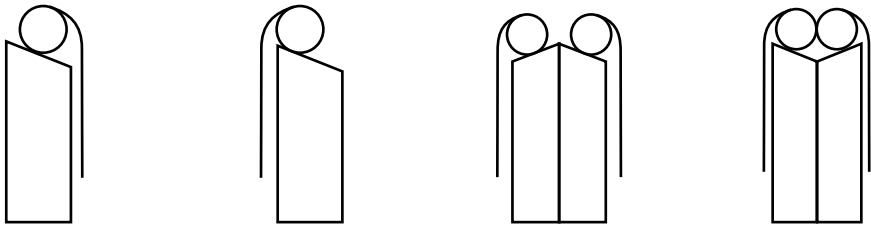

Fig. 9: Direction of brush top bevels
3. Check the Direction of the Brush top bevel as shown in fig 9.